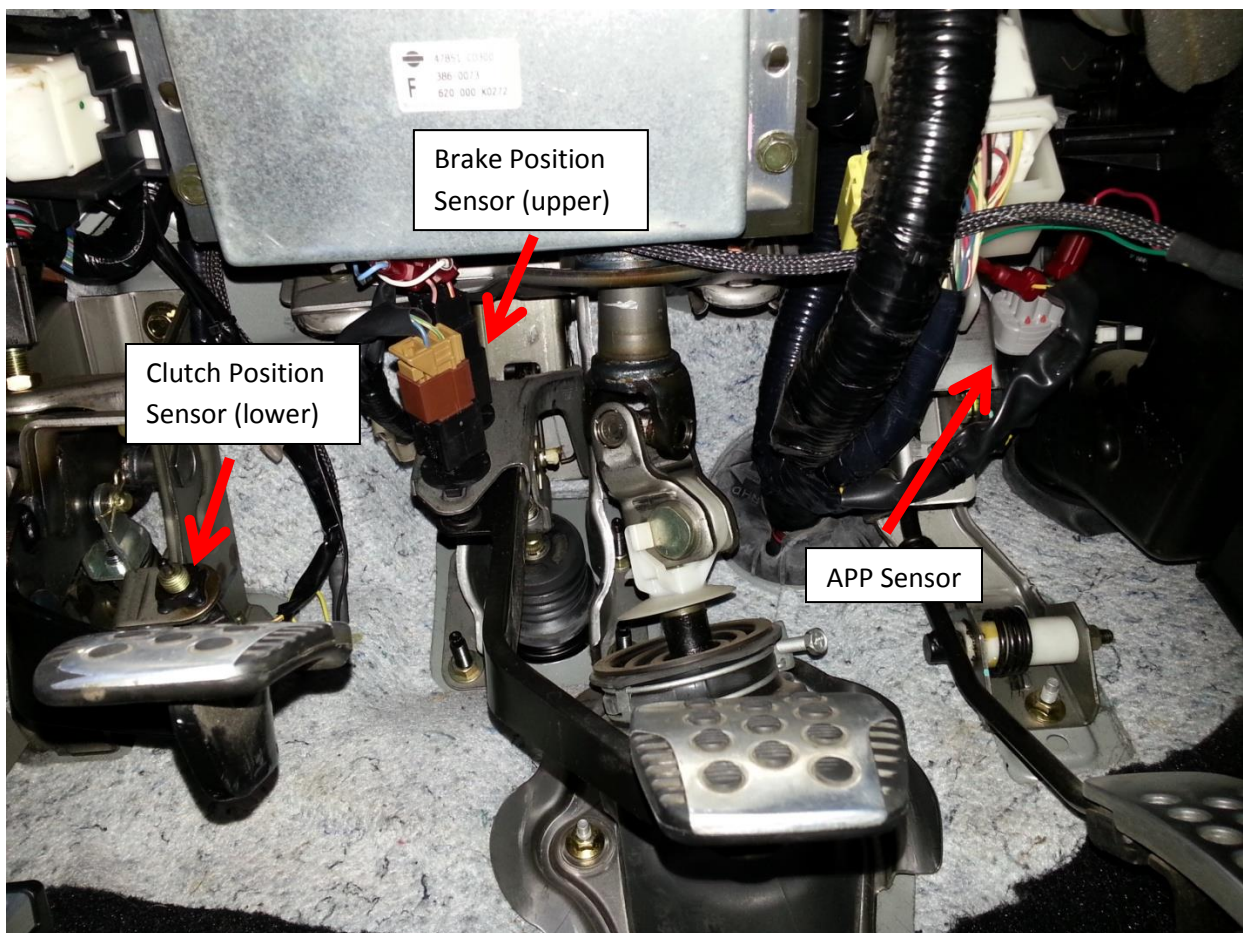

Figure 1 (Sensor Locations)
1. Locate Accelerator Pedal Position Sensor (APPS) (**Figure 1**).